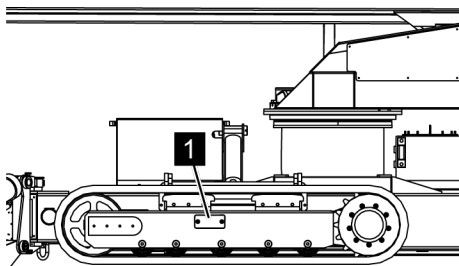

Fig. 126: Unscrewing the lid
2. ➤ Unscrew the lid (Fig. 126/1).